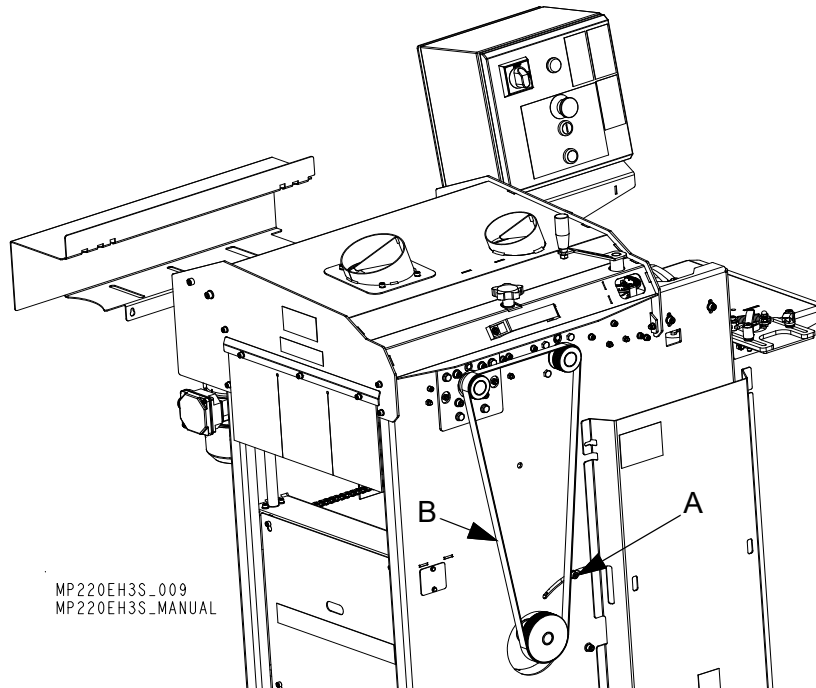

FIG. 3-5
See figure 3-5.
1. Mount the optional table using the parts and fasteners supplied according to the figure 3-5.